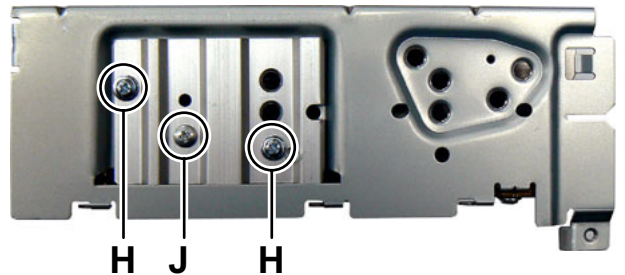

Fig.4
#### 3.1.3 Removing the Main board (See Fig.4, 5)
- (1) Remove the two screws **H** and one screw **J** attaching the Side plate. (See Fig.4)